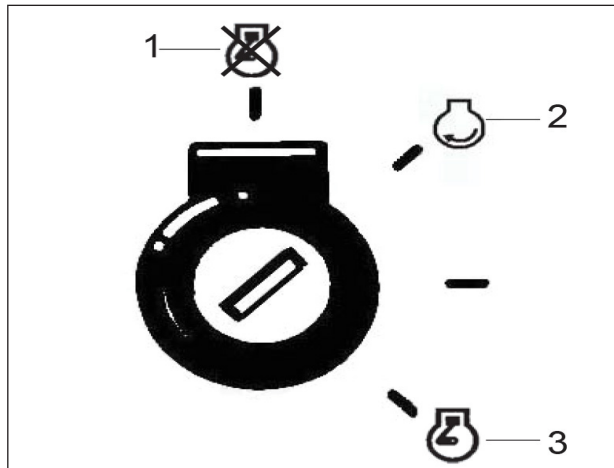

Figure 4.5 - Ignition Key Positions
3. Turn ignition key to the crank position, (3, Ref: Figure 4.5).